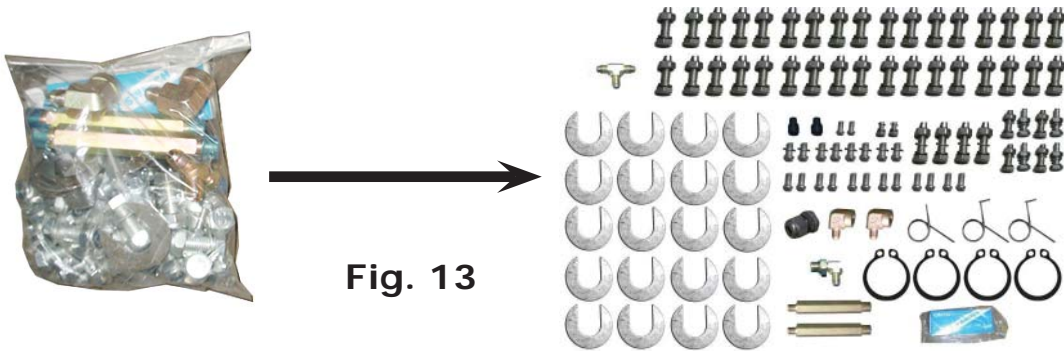

Fig. 13
8. Check the parts in the part bag #1 according to parts bag list (See Fig. 13).